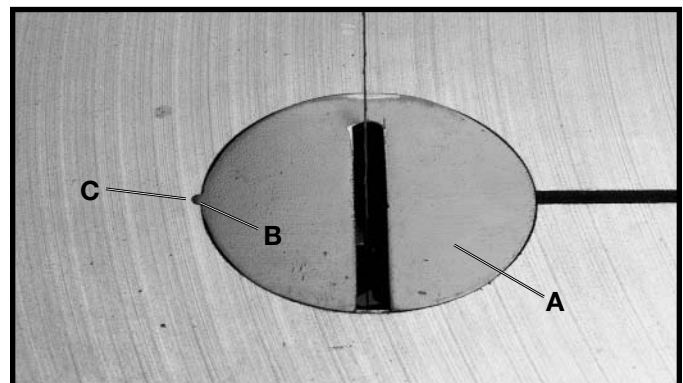

Fig. 22
Place table insert (A) Fig. 22, in opening of table. **NOTE:** A tab (B) is provided on insert that engages with notch (C) in table opening.